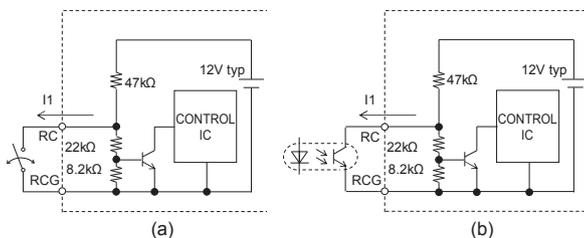

Fig.3.1 Examples of connecting remote ON/OFF circuit
- Remote ON/OFF circuit (RC, RCG) is on the primary side (input side), and the RCG is connected to the $-VIN$ terminal inside the power supply. If it is controlled via an input filter or from the secondary side, insulate it with a photocoupler or similar. (Fig. 3.1(b))